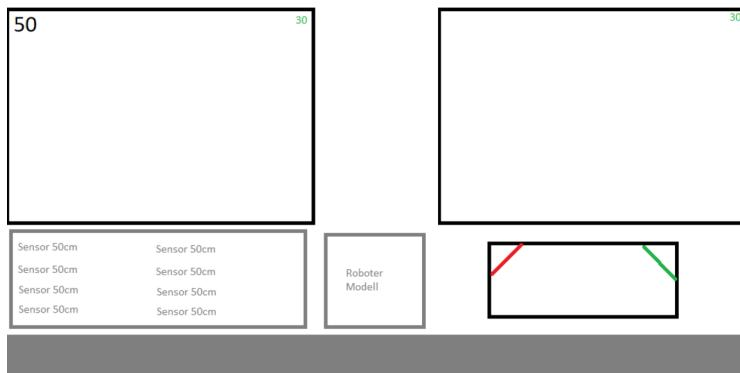

Figure 31: Layout sketch for new GUI
- Drew a Layout sketch for the new GUI in Microsoft Paint (see Fig. 31)
We have ended up with a pretty simple design for our GUI as you can see in Fig. 31. Such a simple design is easier to create and offers plenty of room for additions later on. Buttons and our logo will later be added to the gray bar at the bottom and the free space between the two camera frames.